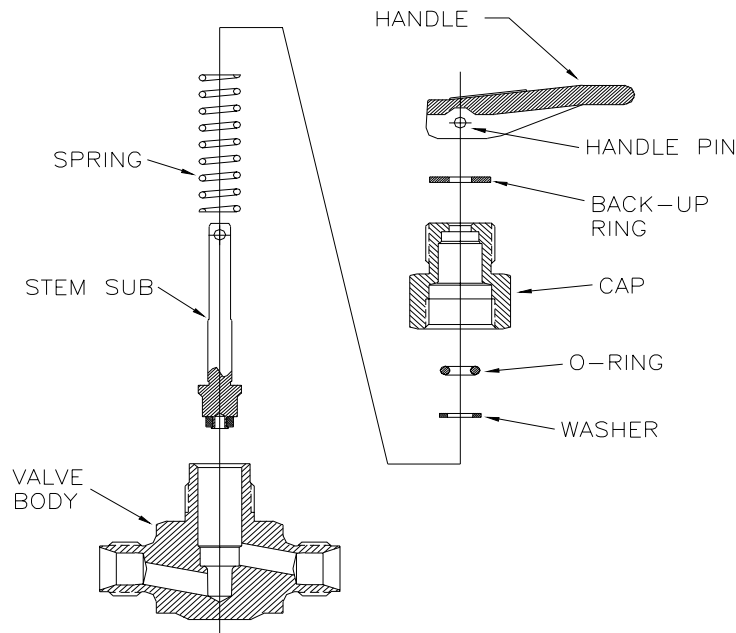

Figure 2: VQ Series Toggle Needle Valve Exploded View
6. Refer to Figure 2. Remove the Handle Washer located directly above the Cap. Set this piece aside for later reassembly.